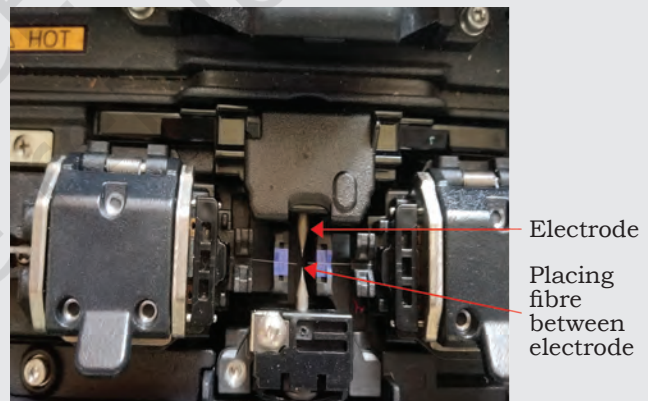

Fig. 5.29: Placing fibre between the electrodes
4. Place the first end of the prepared fibre of Step 6, inside the V-groove so that the tip of the fibre is located between V-groove edge and the tip of the electrode as shown in Fig. 5.28 and Fig. 5.29.